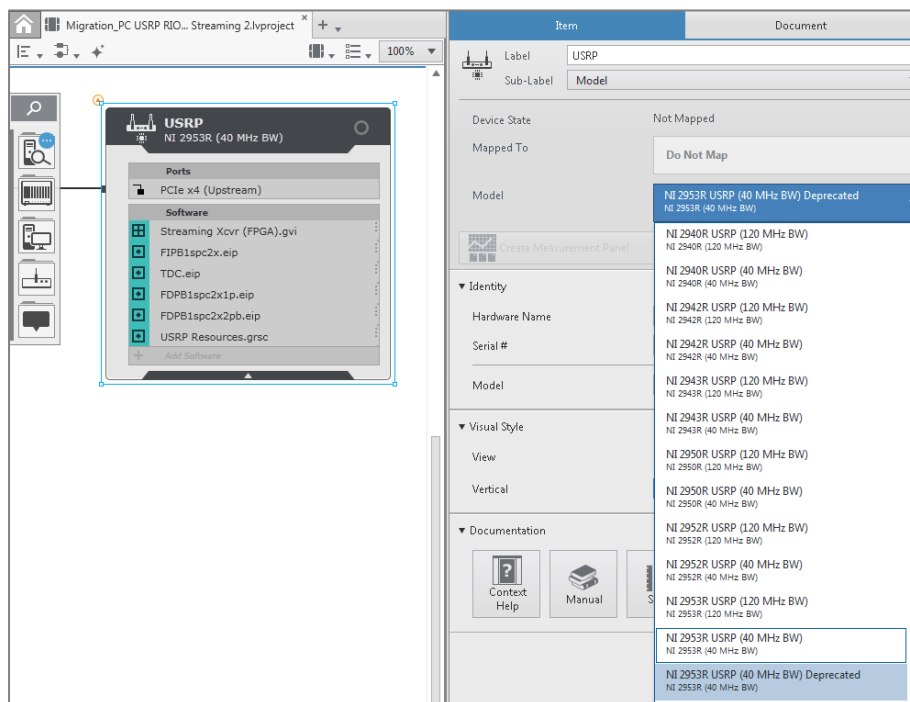

Figure 53: Select USRP Target from Right-Hand Rail
5. Select your USRP Target on the System Designer and change the "Model" in the right-hand rail to the non-deprecated version (ex: NI 2953R USRP (40 MHz BW) Deprecated » NI 2953R USRP (40 MHz BW)) as shown in Figure 53.